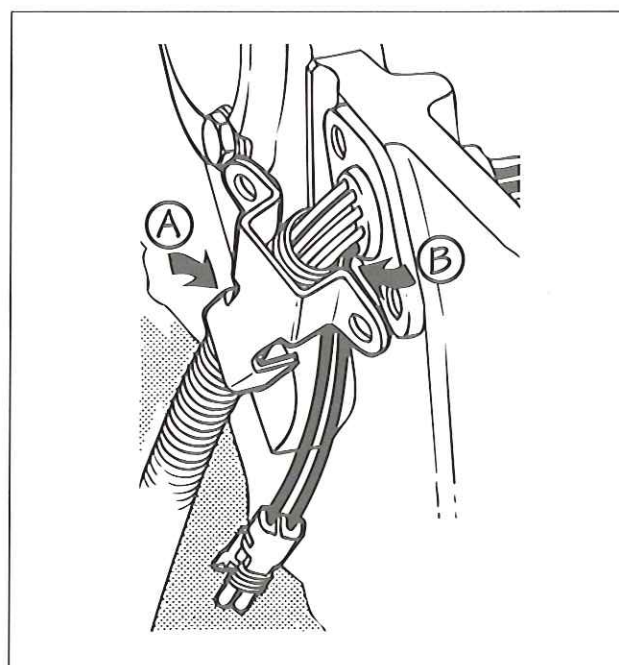

FIG. 11
1. Remove the mounting flange cover (A) from the Electronic Unit Injector (EUI) harness (see Fig. 11).
2. Insert the blue and yellow wires from the wire harness, Jacobs P/N 020217, through two of the access holes in the grommet (B) located at the rear of the cylinder head. Insert the wires from the outside in.